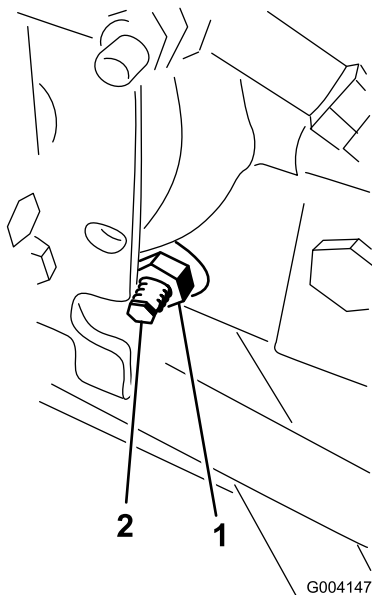

Figure 79
3. On the right side of the hydrostat, loosen the locknut on the traction adjustment cam (Figure 79).